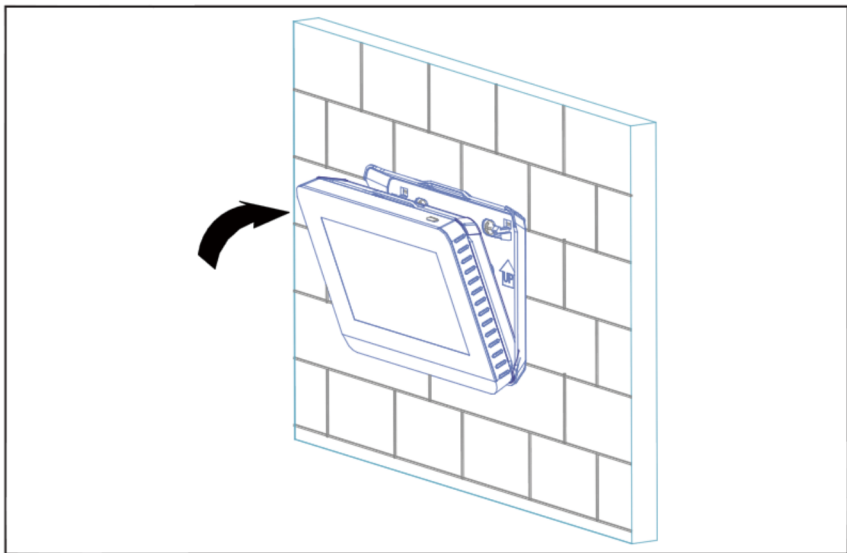

Figure 6
3.1.5 Press the upper part of the centralized controller into the back cover, so it gives a click sound, as shown in Figure 6.